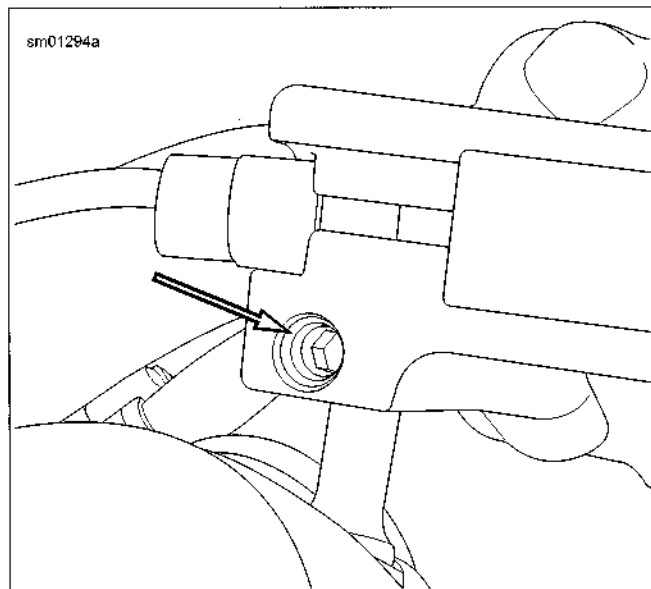

Figure 6-61. Ball Stud Set Screw
2. See Figure 6-61. Loosen set screw to remove turn signal assembly.